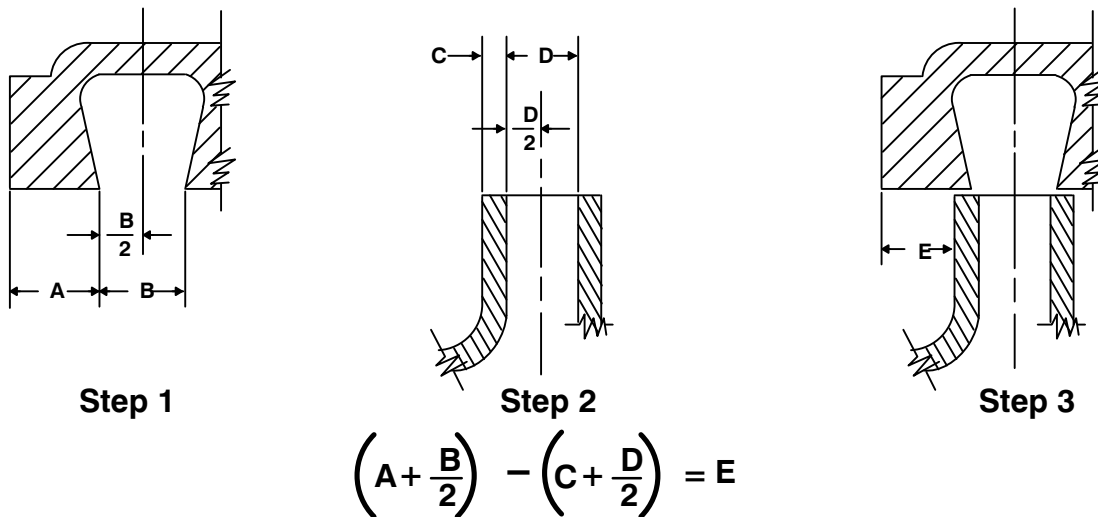

Figure 4. Centering Impeller Within Pump Casing
For maximum pump efficiency, the impeller should be centered within the pump casing. To verify impeller positioning, measure the pump casing and impeller as shown in Figure 4. Use these measurements to calculate the required impeller location (dimension E). Add or remove gaskets in the pump casing gasket set (13) to obtain dimension E.